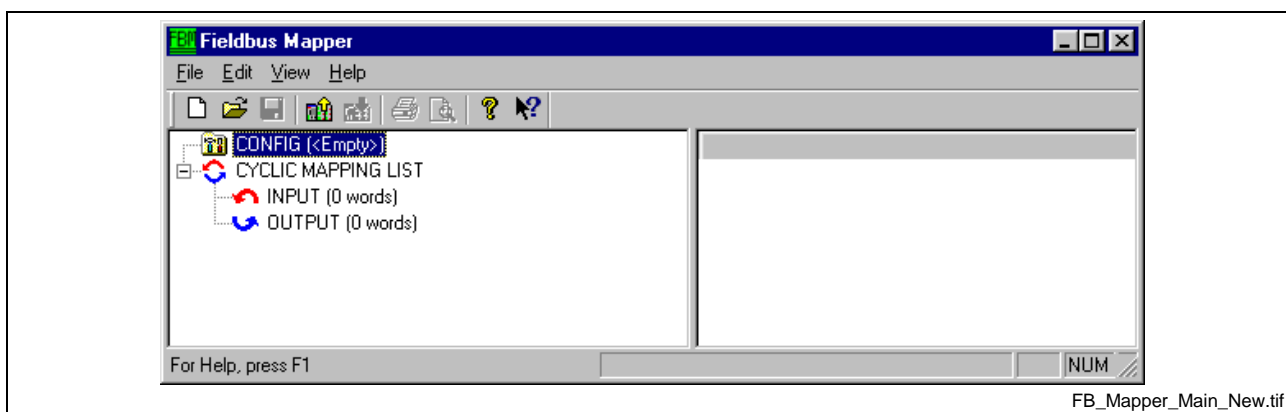

Fig. 6-5: Fieldbus Mapper Main Screen (Blank)
2. Select **Data⇒Fieldbus Mapper**. The main Fieldbus Mapper screen appears (refer to *Fig. 6-5*).